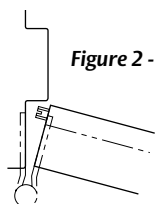

Figure 2 - Semi-Mortise Mounted
8. For semi-mortise mounted installation, the plunger contacts the rabbet (as shown in Figure 2).